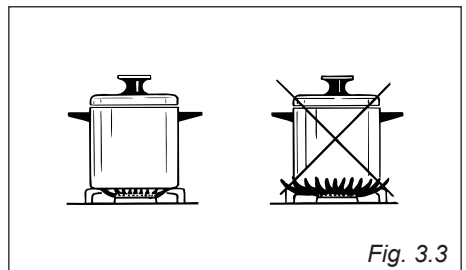

Fig. 3.3
- Open the cable gland by unscrewing screw "F" (fig. 3.3), unscrew the terminal screws and remove the cable.